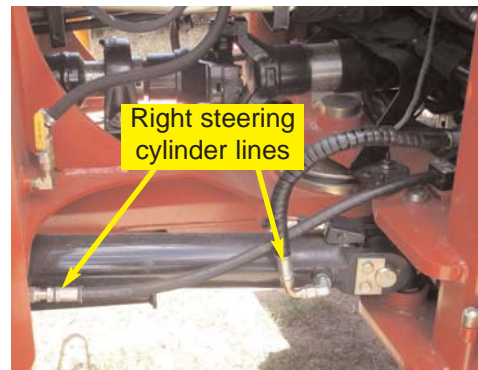

Figure 6a. Steering output location.
- a. Locate the right side steering cylinder in the middle of the tractor. (Figure 6a.)